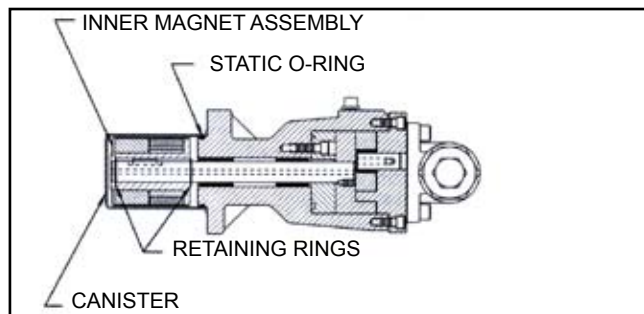

FIGURE 29
3. Install the first external retaining ring (in the groove closest to the casing) and the key on the pump shaft. Slide the inner magnet assembly onto the shaft, (the counterbore of the magnet is pointed away from the pump) so that it butts against the snap ring. Install the second external retaining ring (closest to end of shaft) to secure magnet. See Figure 29.